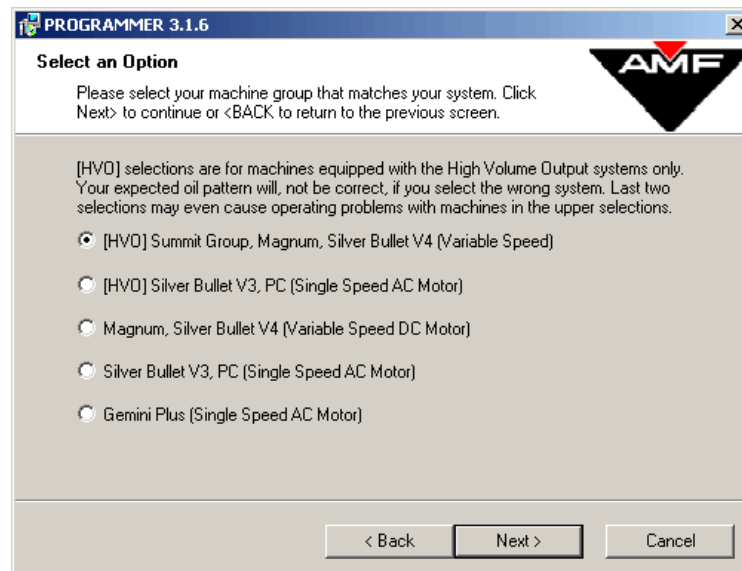
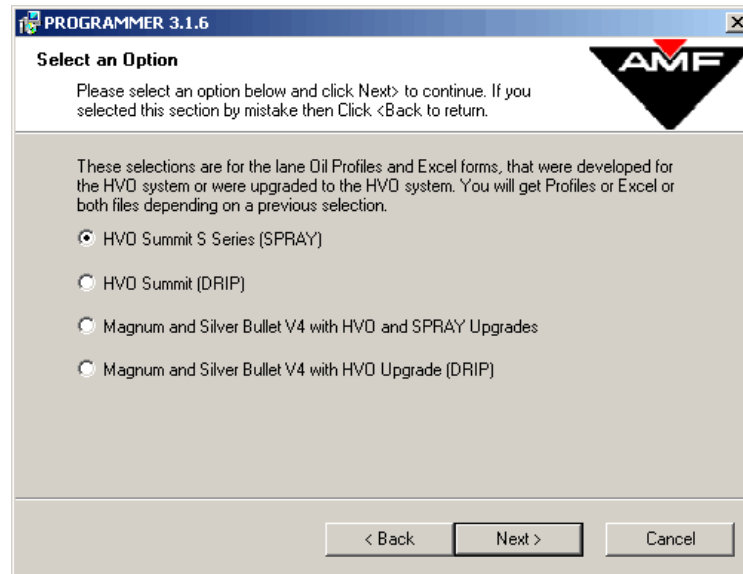

Figure 1-7
Figure 1-8
9. At this point, you must choose which type of lane machine is being used. The default selection is the first item which includes the HVO Summit S Series as shown in **Figure 1-7**. Make any changes if necessary and click on the **<Next>** button.
10. **Figure 1-8** shows the different machines that fall under the default selection for **Figure 1-7**. The default for **Figure 1-8** is the HVO Summit S Series and is shown below. Make any changes if necessary and click on the <Next> button.